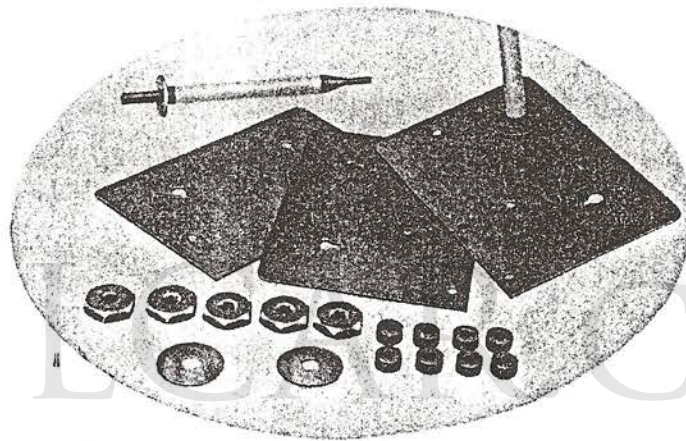

FIG.8
- (6) The left-hand fin and pile rod assembly may then be dismantled. There is no necessity to remove both rods from the inside fin if only one is damaged. (See Fig.8).